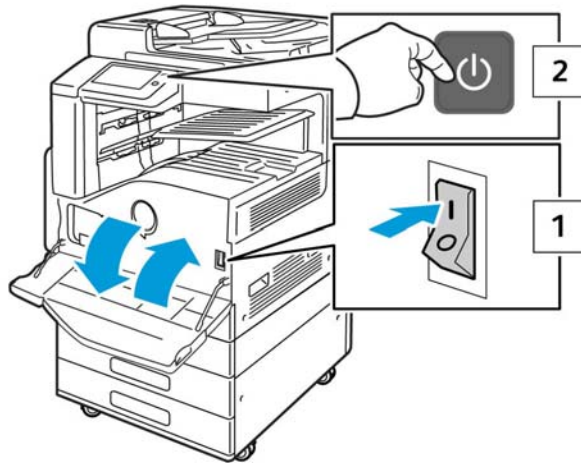

Figure 1 Main power switch and UI power button
Closing the main power switch supplies AC power to the low voltage power supply, from which it is distributed throughout the machine, Figure 1, item 1. The AC power is converted into +5VDC standby power which is supplied to the ESS PWB (and Fax if installed). The ESS PWB supplies 5VDC power to the UI power button, Figure 1, item 2.